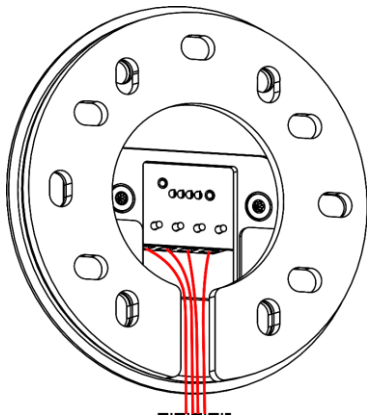
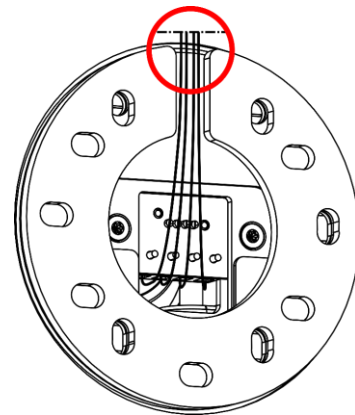

Fig. 15
Fig. 16
- 01) Hold the **mounting plate (07)**, with the **rubber gasket (08)**, against the wall, in such a way that all cables fit through the opening in the **rubber gasket (08)** (Fig. 15).
Make sure that the opening in the gasket is located at the bottom (Fig. 15). If, for any reason, such installation is not possible, seal the opening with a waterproof sealant to protect the device from the ingress of water (Fig. 16).